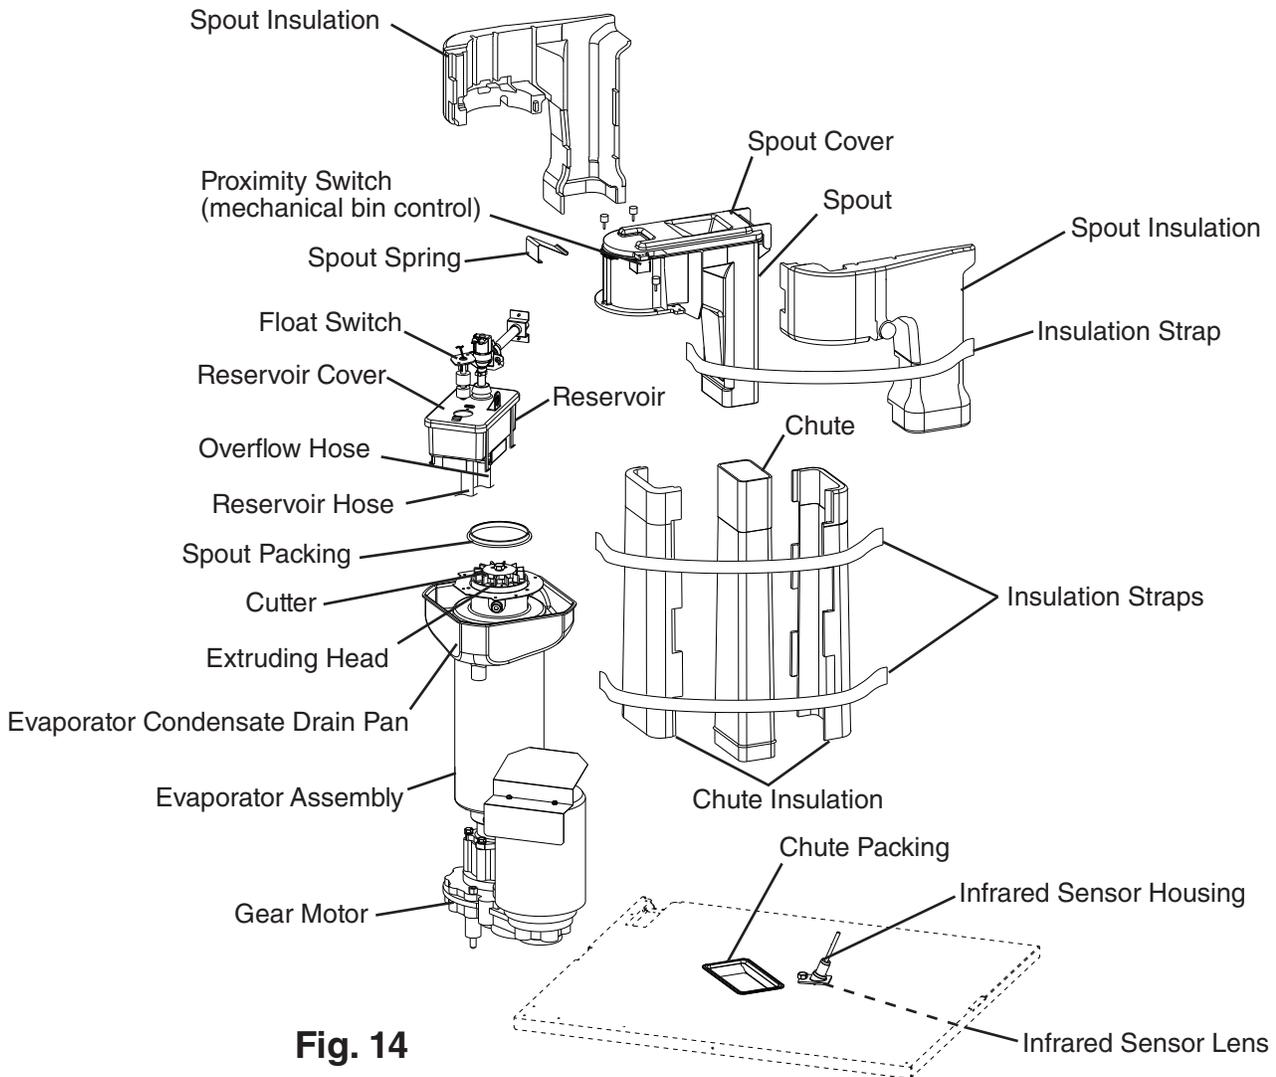

Fig. 14
- 6) Remove the spout spring, then open the spout cover. See Fig. 14.
- 2) Remove the spout spring, then open the spout cover. See Fig. 14.